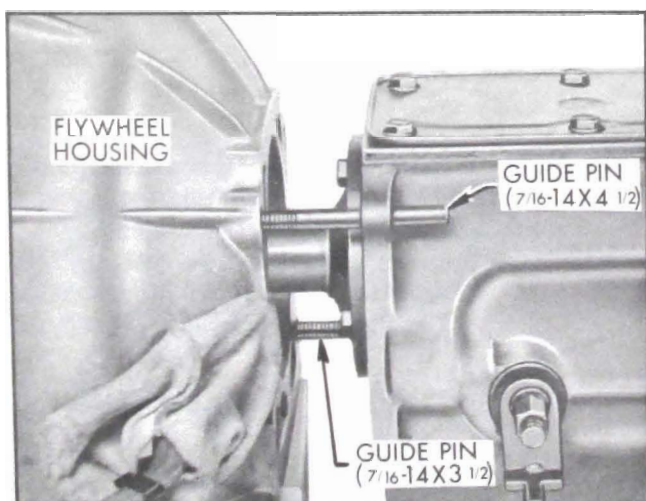

Figure 4-11—Transmission Guide Pins
9. Remove upper left transmission to flywheel housing bolt and install a 7/16-14 x 4-1/2 inch guide pin; remove lower right bolt and install a 7/16"-14 x 3-1/2 inch guide pin. See Figure 4-11.
2. Make certain that front face of transmission case and rear face of flywheel housing are absolutely clean. Install a 7/16-14 x 4-1/2 inch guide pin in upper left flywheel housing hole; install a 7/16-14 x 3-1/2 inch guide pin in lower right hole. See Figure 4-11.